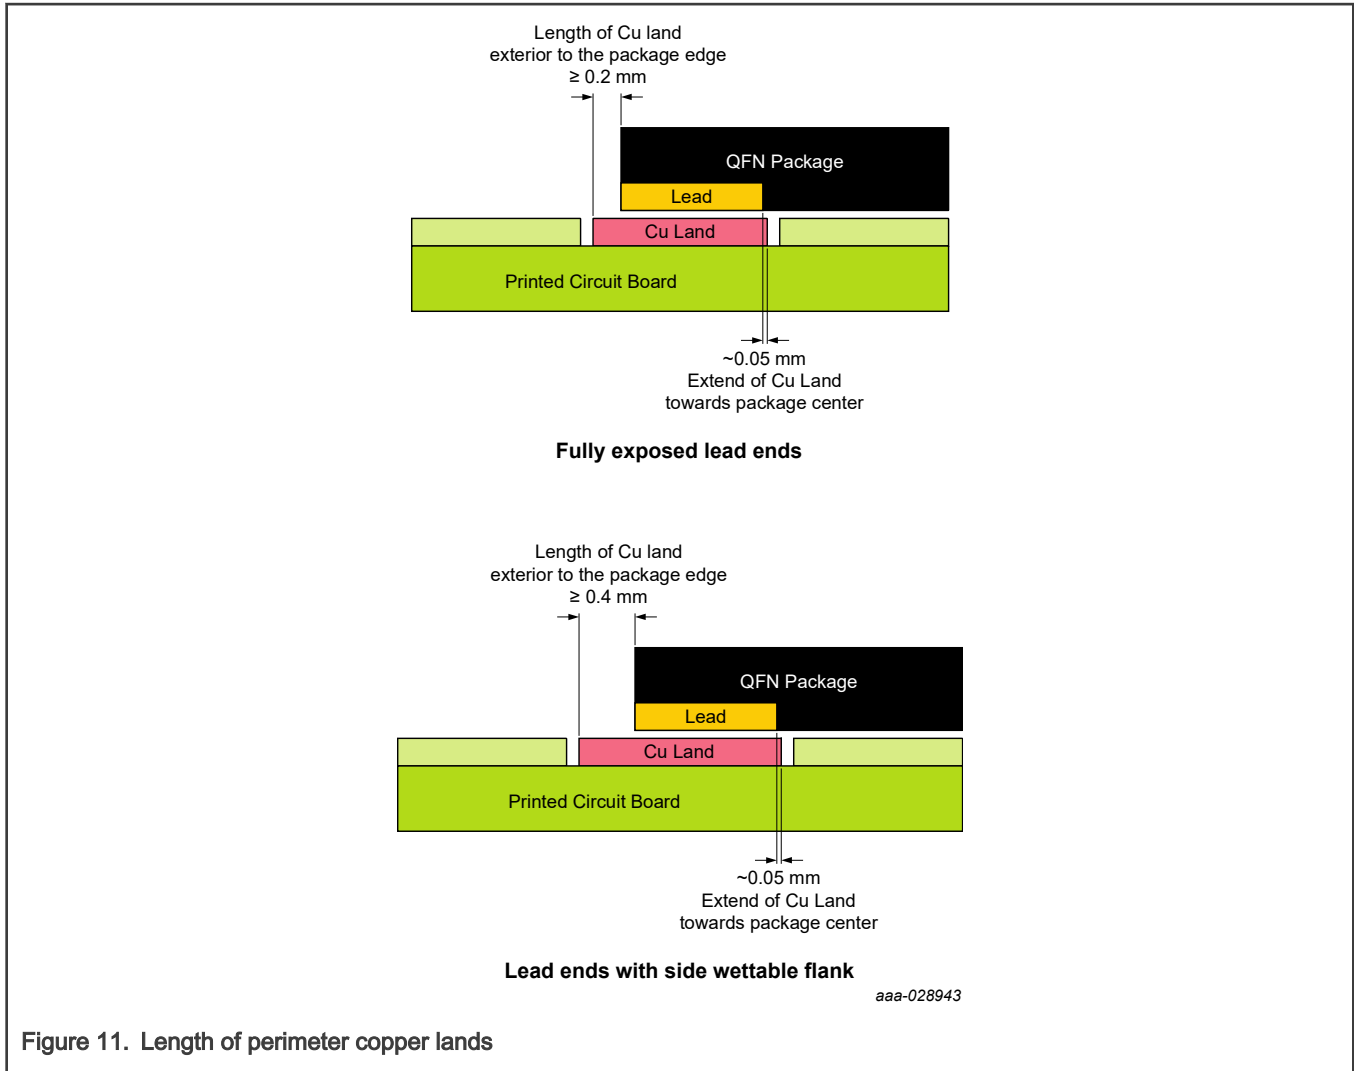

Figure 11. Length of perimeter copper lands
- The land should extend  $\sim 0.05$  mm towards the center of the package (Figure 11).
- The land should extend  $\geq 0.40$  mm from the package edge to the exterior for PwrQFN with side wettable flanks to form inspectable toe solder fillets (Figure 11). If board space allows, a longer land extension (such as 0.60 mm) will generally result in more consistent fillet formation because it will be influenced less by PCB assembly issues (e.g. misalignment).